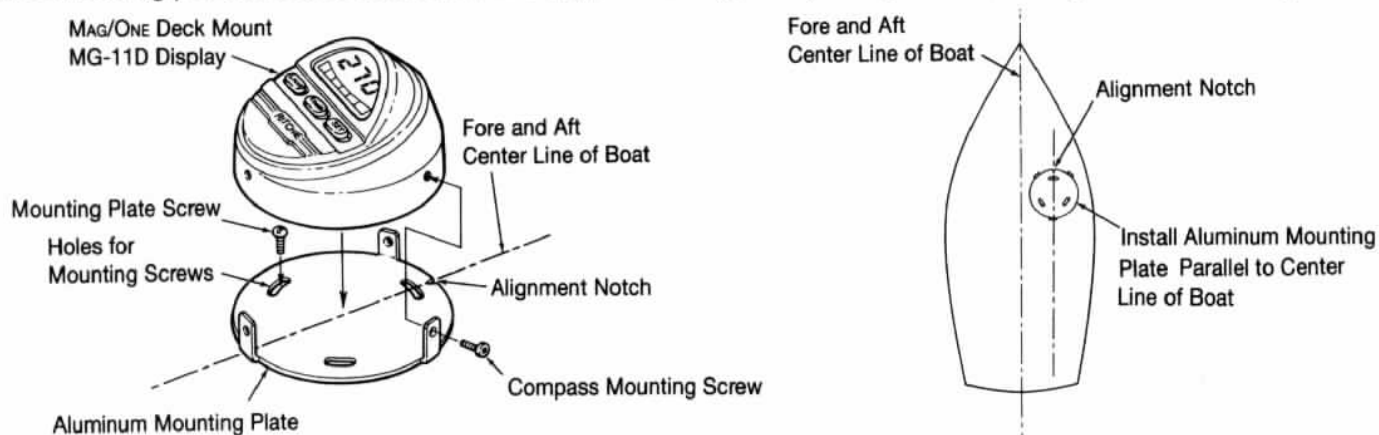

Figure 3. Aluminum Mounting Plate Installation
The MAG/ONE Deck Mount is fastened to the surface of the mounting area with an aluminum mounting plate using the three (3) self-tapping, non-magnetic screws supplied. The mounting plate must be aligned so that a line through the aft mounting tab and the alignment notch is parallel to the fore and aft center line of the boat. Drill a #25 or 5⁹/₃₂" hole for the wire forward of the mounting plate. Lead the wires to the power source and make connections per the wiring diagram. (Note: To prevent water penetration the hole should be caulked after installation). Place the compass unit down on the three mounting plate tabs and secure with three (3) screws supplied. (see Figure 3. Mounting Plate Installation).